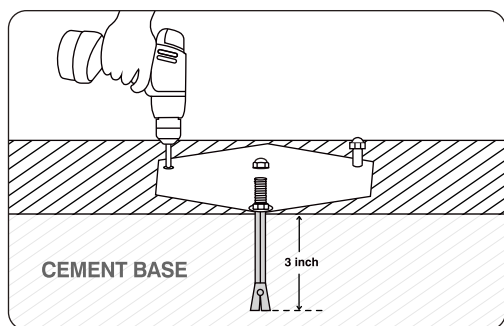

FIG.1
1. Drilling holes in the concrete floor using an electric drill (the specific position can be fixed with the ⑦ Position Template), the drill depth is about 3 inches. (FIG.1)